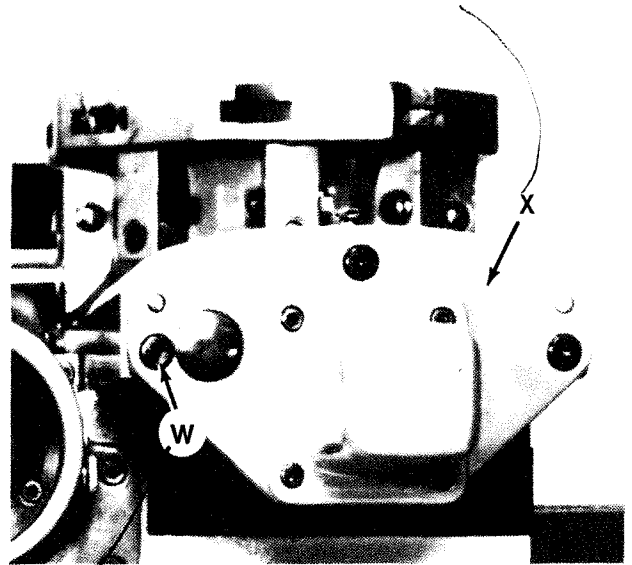

Figure 1.27 - Housing for Cross Slide Feed Screw Nut
Housing "X", Figure 1.27, is doweled in place. If necessary, tap the cover from behind with a soft-faced hammer to remove it.
8. Remove three screws "W" and housing "X", Figure 1.27 .
14. Install housing "X" and three screws "W", Figure 1.27 .
Move the cross slide slowly toward the front of the machine. Do not allow the feed screw to contact the feed screw nut in housing "X", Figure 1.27, forcefully. Damage to the feed screw nut may result.